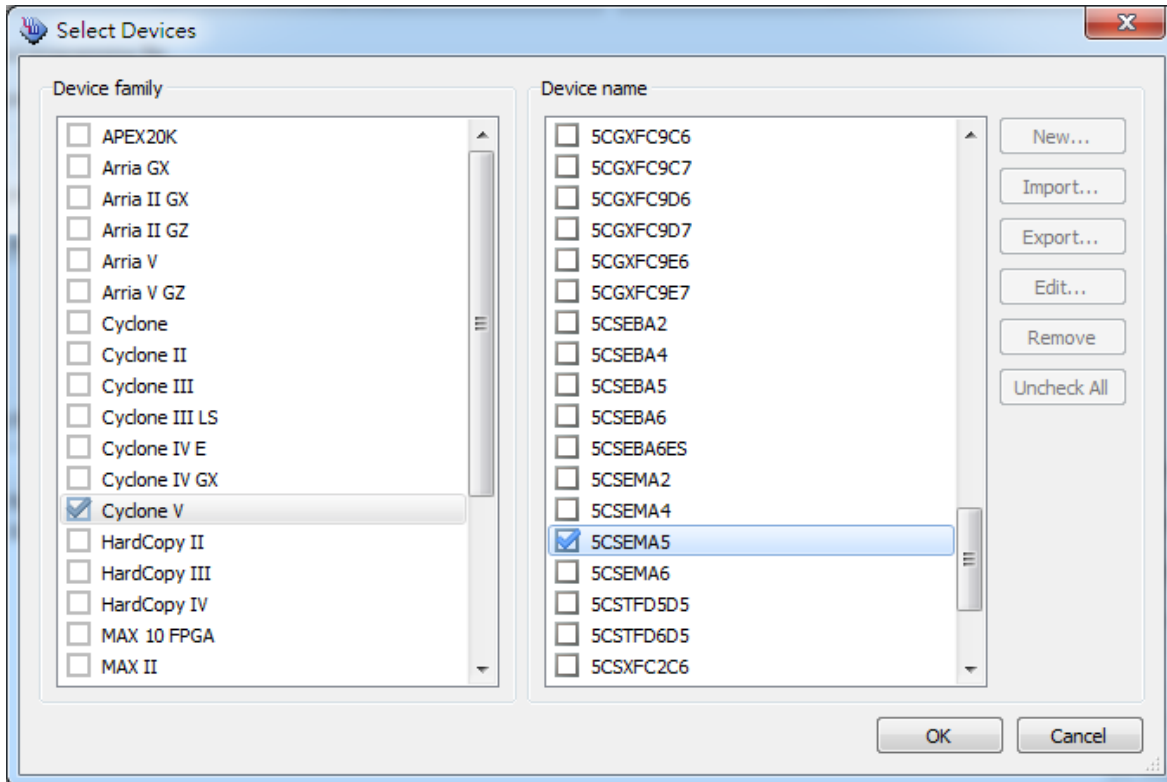

Figure 8-4 “Select Devices” page
12. Select the targeted FPGA to be programmed into the EPCS, as shown in **Figure 8-4**.